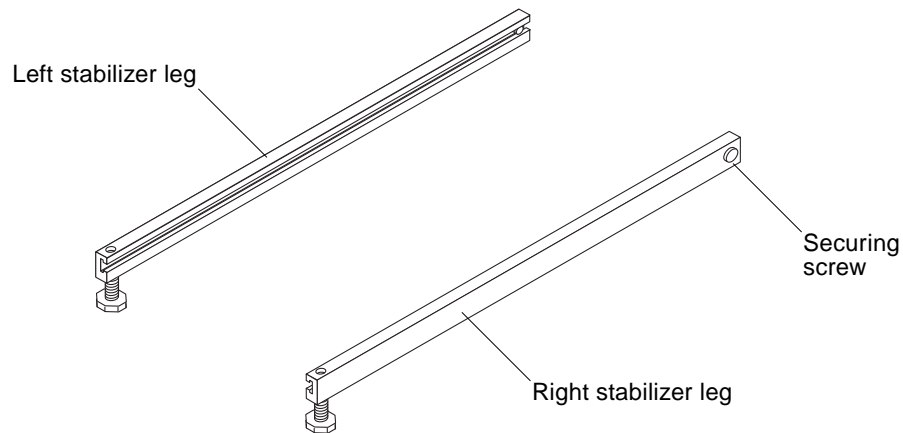

FIGURE 3-2 Stabilizer Legs
1. Loosen the securing screw on the right stabilizer leg (FIGURE 3-2).